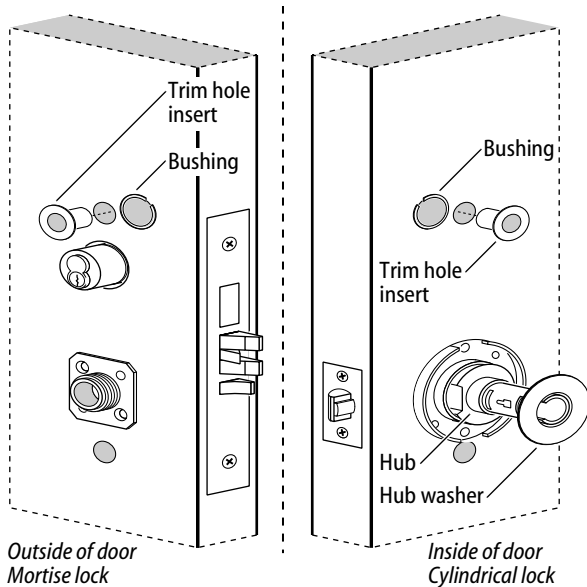

Figure 7 Installing the trim hole inserts, bushings, and hub washers (B.A.S.I.S. Lock shown)
- 1 Insert the two trim hole inserts into the upper trim hole on each side of the door, as shown in Figure 7.
- 2 Make sure the two bushings are inserted into the harness hole on each side of the door, as shown in Figure 7.